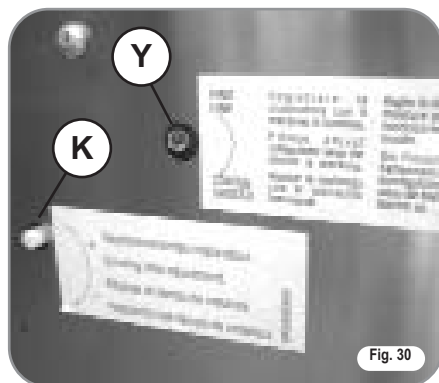

Fig. 30
1) The machine is equipped with a professional coffee grinder with \varnothing 50 mm (\varnothing 1.97 in) grinding wheels; its slow speed and even grinding consistency prevent the coffee from burning. If the ground coffee is not as required, it is possible to change the grinding fineness and amount using the regulators in the left rear side of the machine (K and Y) (see Fig. 30).